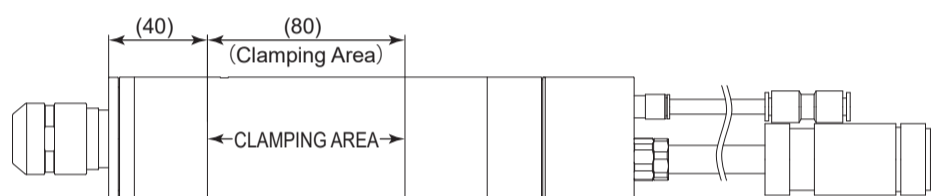

Fig. 13
- 1 When mounting a motor spindle, refer to the Clamping Area etched on the motor spindle. (Fig. 13)